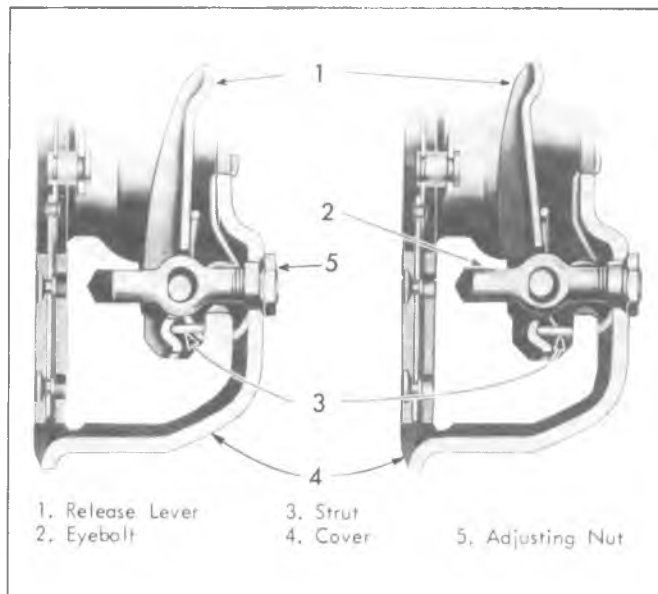

Fig. 9—Release Lever
When the clutch pedal is depressed the release bearing is moved toward the flywheel and contacts the inner ends of the release levers, (1) (fig. 9). Each release lever is pivoted on a floating pin which remains stationary in the lever and rolls across a short flat portion of the enlarged hole in the eyebolt (2). The outer end of each release lever engages the pressure plate lug by means of a strut (3), which provides knife-edge contact between the outer end of the lever and the lug. The outer ends of the eyebolts extend through holes in the stamped cover (4), and are fitted with adjusting nuts (5) to correctly position the levers.